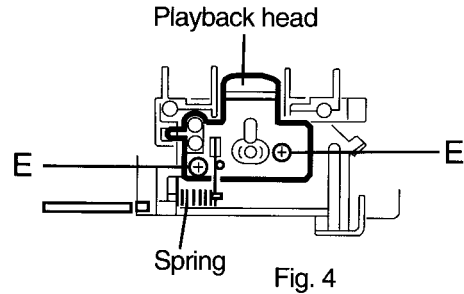

Fig. 4
3. Remove the four ribs **a** securing the front chassis assembly to the chassis. (See fig 4)
■ **Removing the Playback Head (See Fig. 4)**